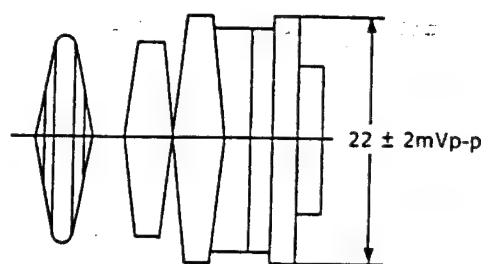

Figure 2-22.
- b) Adjust R5811 (recording chroma control) to that the red level be $22 \pm 2\text{mVp-p}$ as shown in Fig. 2-22.